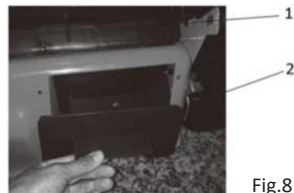

Fig.8
- Remove the grass catcher (Fig. 8 - item 1).
- Place the grass mulching plug in the discharge chute (Fig. 8 - item 2) and make sure it is correctly positioned.